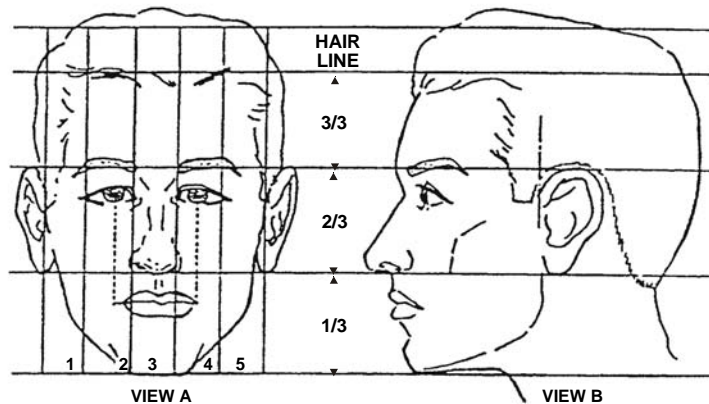

Figure K-11. The head.
a. The basic form of the head is a modified sphere, shaped much like an egg. Horizontal and vertical lines are used in placing the facial features (Figure K-11, View A). A guideline located at half the distance from the eyes to the chin locates the bottom of the nose (Figure K-11, View B).
(3) Consider the following important points when constructing the head and refer again to Figures K-11 and K-12.
(2) Correct positioning of the ear is one of the most important phases of drawing the ear. When drawing the ear, the construction lines are the same for the ear and nose, because both are the same size. When seen in profile, the ear is located directly behind the vertical line that divides the head in two. When seen from the front, the ear slants downward and parallel to the side of the head. (See Figures K-11 and K-12.)